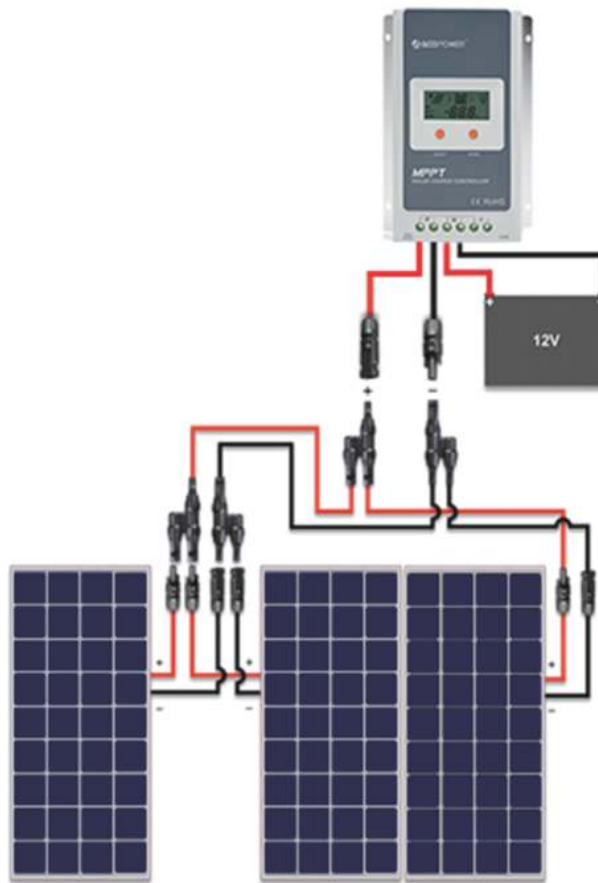

Figure 7 Three 100W Panels in parallel
Three solar panels is the maximum amount of panels that can be connected in parallel if they are adjacent to one another, without using extra cabling. Fig. 7 above shows the arrangement for connecting three solar panels in parallel. Remember that this arrangement is applicable if the three solar panels are to be mounted adjacent to one another. This connection requires two (2) pairs of MC4 Y-Branch Connectors. When one or multiple panels are mounted at different locations- that is, separated by a distance, the panels need to be extended with MC4 Extension Cables (sold separately).